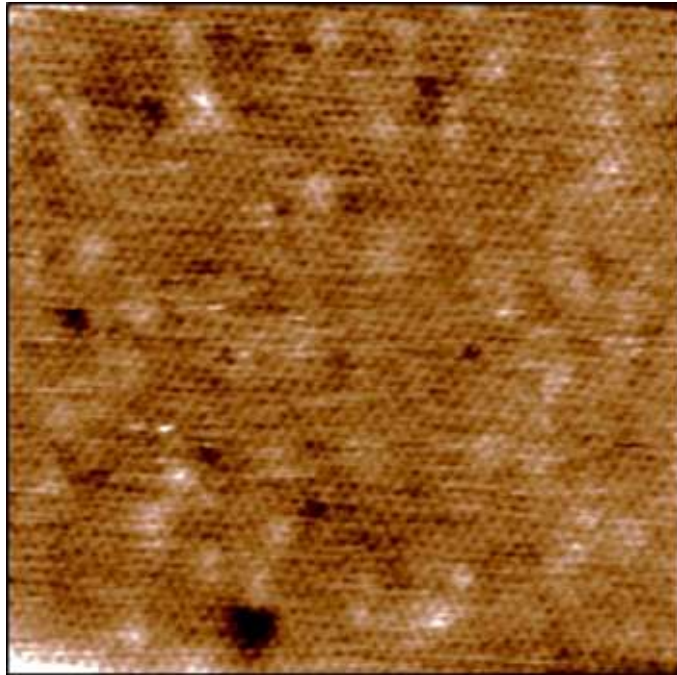

Figure 8.11 Close-up of Purple Membrane Patch (extracellular surface), 300nm scan size
3. Once a patch has been located, zoom in to visualize the crystal lattice. The largest scan size at which it is possible to begin seeing the lattice structure is approximately 500nm. The lattice is quite distinct in a 300nm scan (Figure 8.11).